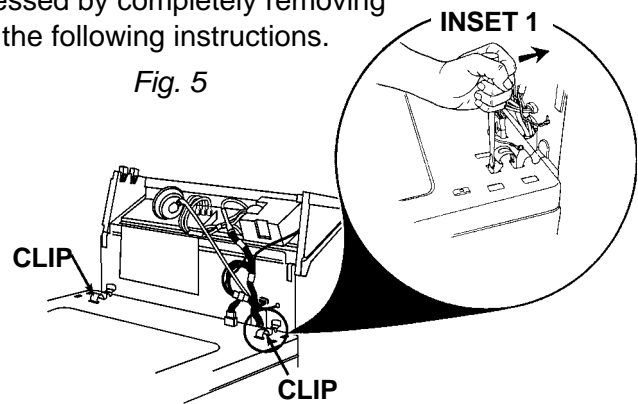

Fig. 5
Components inside the washer cabinet can be accessed by completely removing the outer cabinet as one unit. Refer to *Figure 5* for the following instructions.
3. Remove the cabinet mounting clips by placing the flat blade of a screwdriver in the clip as shown in *Figure 5, Inset 1*.